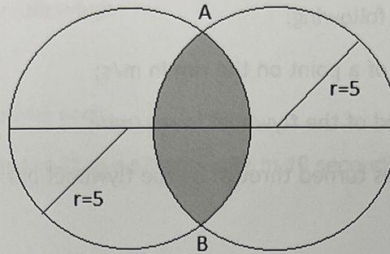

FIG Q5
- (a) determine the angle  $CAB$ ; (4)
- (b) determine the area of the whole shape  $ACDB$ . (4)
5. The diagram in FIG Q5 shows two intersecting circles EACH with a radius of 5 cm. The length AB is 8 cm.